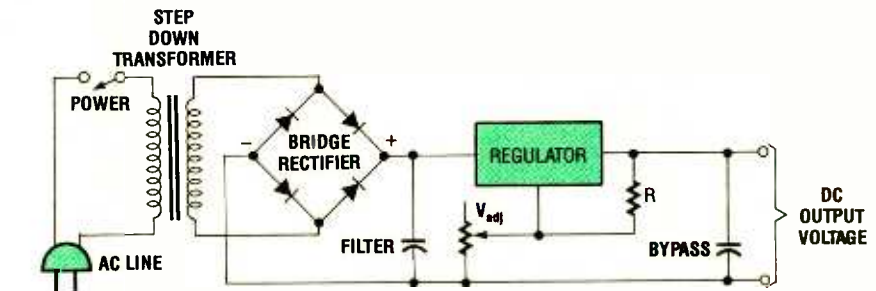

Fig. 1. This schematic shows how simple a variable-voltage power supply using a 3-terminal regulator can be to build.
**Voltage Sources.** A number of different approaches can be used to obtain the necessary flashing voltages. Step-down transformers, rectifiers, and 3-terminal regulators covering the required voltage range are readily available from a number of sources, including Radio Shack. Using those, you can easily put together an inexpensive variable-voltage DC supply suitable for flashing. Though this is not a construction article for building such a unit, I've included a schematic of one (Fig. 1) to show you just how simple the circuit can be. You should use components capable of handling loads of about 1.5 amperes.